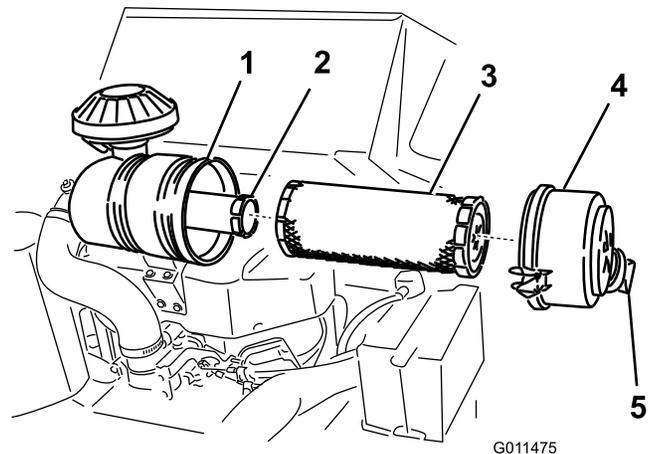

Figure 30
3. Release the latches on the air cleaner and pull the air cleaner cover off of the air cleaner body (Figure 30).
1. Gently slide the primary filter out of the air cleaner body (Figure 30).
4. If you are replacing the safety filter, carefully slide the new filter into the filter body (Figure 30).
5. Carefully slide the primary filter over the safety filter (Figure 30).
6. Install the air cleaner cover with the dust cap oriented as shown in Figure 30 and secure the latches.